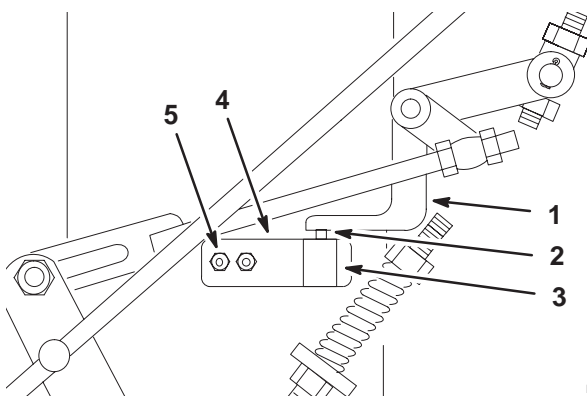

Figure 42
8. Check to make sure the safety switch is depressed and there is an 1/8 to 1/4 inch (3 to 6 mm) space between the actuating tab and the safety switch (Fig. 42).
9. To adjust the switch location, loosen the two neutral bracket screws holding the switch plate to the frame (Fig. 42).
10. Adjust the switch up or down to obtain an 1/8 to 1/4 inch (3 to 6 mm) space (Fig. 42).
11. Tighten the two neutral bracket screws holding the switch plate (Fig. 42).